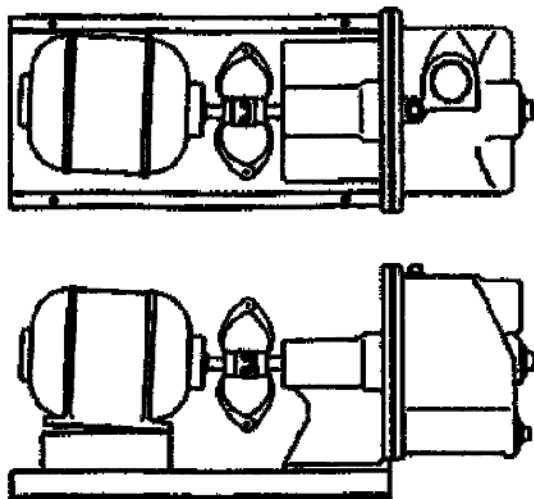

Figure 81. Checking angular alignment.
4. Check the gap and angular misalignment on the coupling. The coupling shown in figure 81 is the "spider insert" type. The normal gap is one-sixteenth of an inch. The gap is the difference in the space between the coupling halves and the thickness of the spider insert. Angular misalignment may be checked by using calipers at four points on the circumference of the outer ends of the coupling hubs, at 90° intervals, as shown in figure 81.